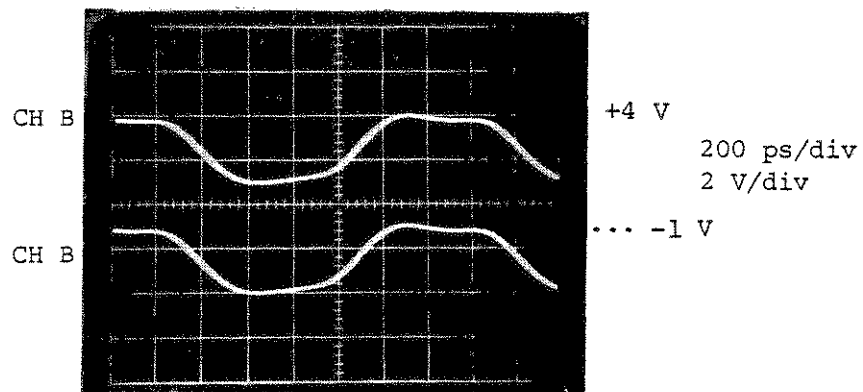
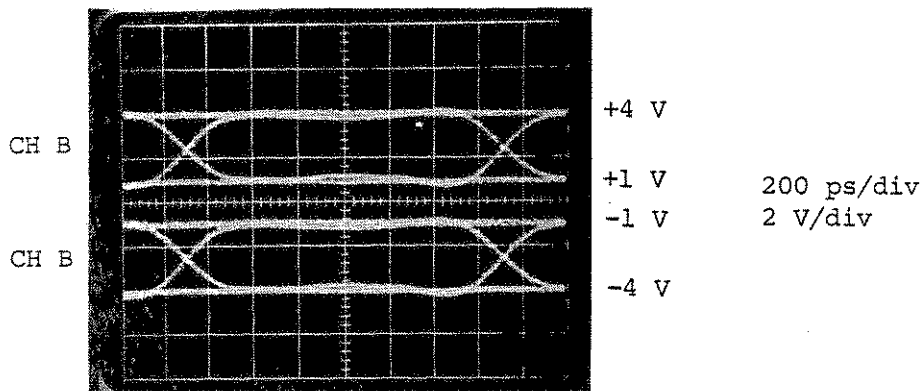

Fig. 6-16 CLOCK 1 Output Offset
Fig. 6-17 DATA 1 Output Offset
- 6 Confirm that the CLOCK 1 and DATA 1 offset voltage can vary from -1 to -4 V by the respective CLOCK 1 and DATA 1 OFFSET [V], [^] keys. See Fig. 6-16 for the CLOCK 1 output offset check and Fig. 6-17 for the DATA 1 output offset check. Keep the DATA 1 output format in NRZ.